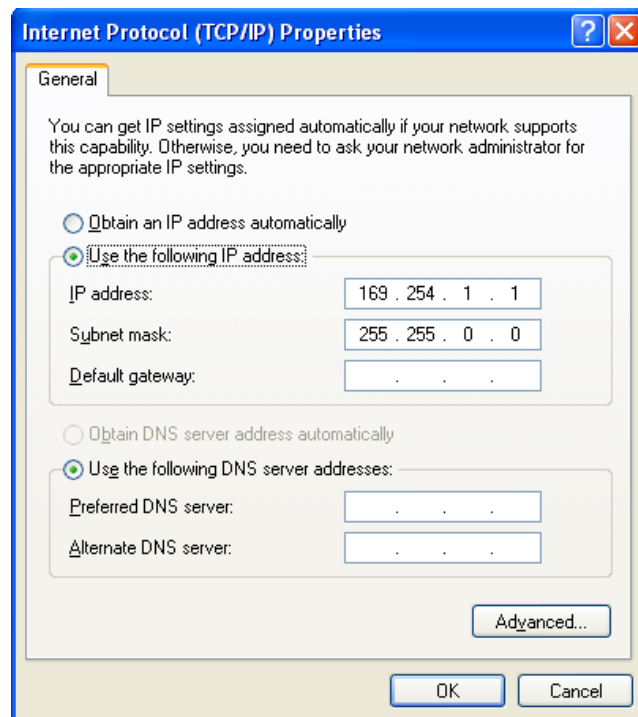

Figure 5. Network card TCP/IP address.
- Select the **Internet Protocol (TCP/IP)** check box and then select **Properties**. See Figure 5. Network card TCP/IP address.. Select the **Use the following IP address** and enter an IP address of **169. 254. x. y**, where **x** and **y** can be any number. Press the TAB key after entering the IP address and the subnet mask will automatically be entered. The subnet mask is **255. 255. 0. 0**. Click **OK** to save changes. Note that if Windows reports a conflict with the above IP address, simply repeat the above steps and change the last digit of the IP address to a different value.